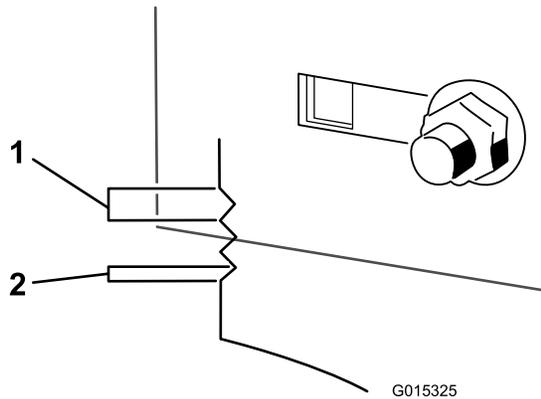

Figure 50
- Use the notches on the welded bracket to measure the amount of adjustment. Each notch surface is equivalent to 0.25 inch, while a single side is 0.125 inch (Figure 50). Adjust the height of the mower deck to the desired height.